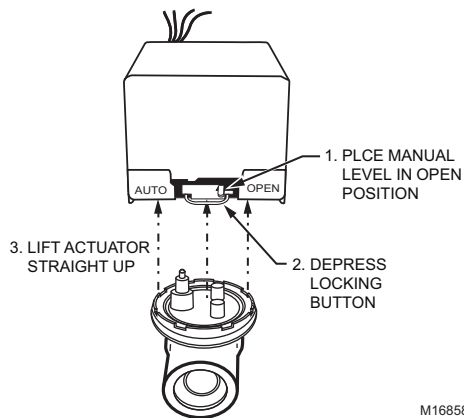

Fig. 4. Removing Actuator from Valve Body.
'F' Models - 5 screw terminal board. Includes "blind" terminal for transformer and thermostat wiring convenience. (See Fig. 4) It also includes add-on line voltage enclosure with conduit opening for end switch wiring.
1. Align the parallel flat surfaces in double-D shaft of valve body with notch in side of body (i.e. 90° to water flow.) See Fig. 4. This makes actuator attachment easier.